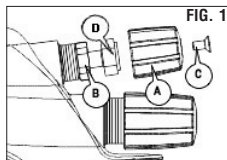

FIG. 1
- f. Disassembly of pattern adjustment set (5) and/or air adjustment set (15).
In order to disassemble pattern adj. set (5) and/or air adj. set (15), first of all unscrew countersunk socket head screw Torx T10(C) and remove adjustment knob (A) by pulling out it carefully, as illustrated in Fig.1.
- Then manually turn the hexagon knob (D) of the adjustment counterclockwise to open it completely and unscrew the hexagon face (B) with a spanner turning it counterclockwise.
- To reassemble pattern adjustment set (5) and/or air adjustment set (15), reverse the procedure.
IMPORTANT: Before reassembling pattern adjustment set and/or air adjustment set, make sure that these operations are carried out with the adjustment fully open (Fig.1).